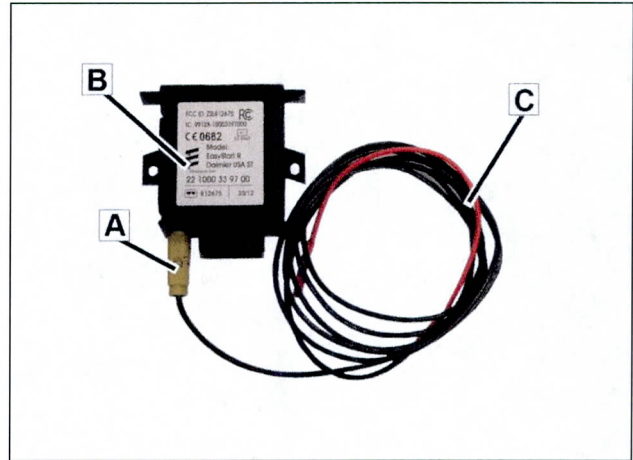

Figure 2
5. Disconnect **new** antenna connector (A, Figure 2) from **new** stationary heater radio signal receiver (B) and discard **new** antenna (C).